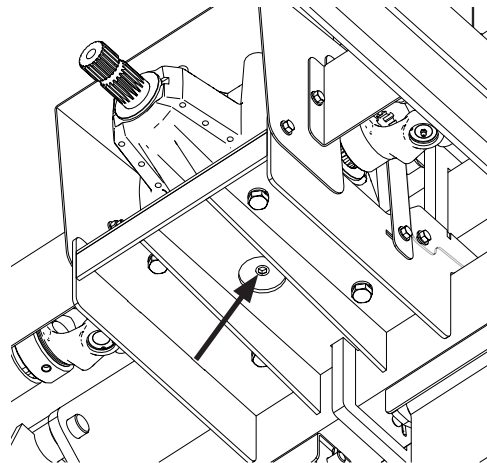

Figure 30. Gearbox Oil Drain Location
1. Change gearbox oil. Refill with SAE 85W90 gear oil. See Figure 30.